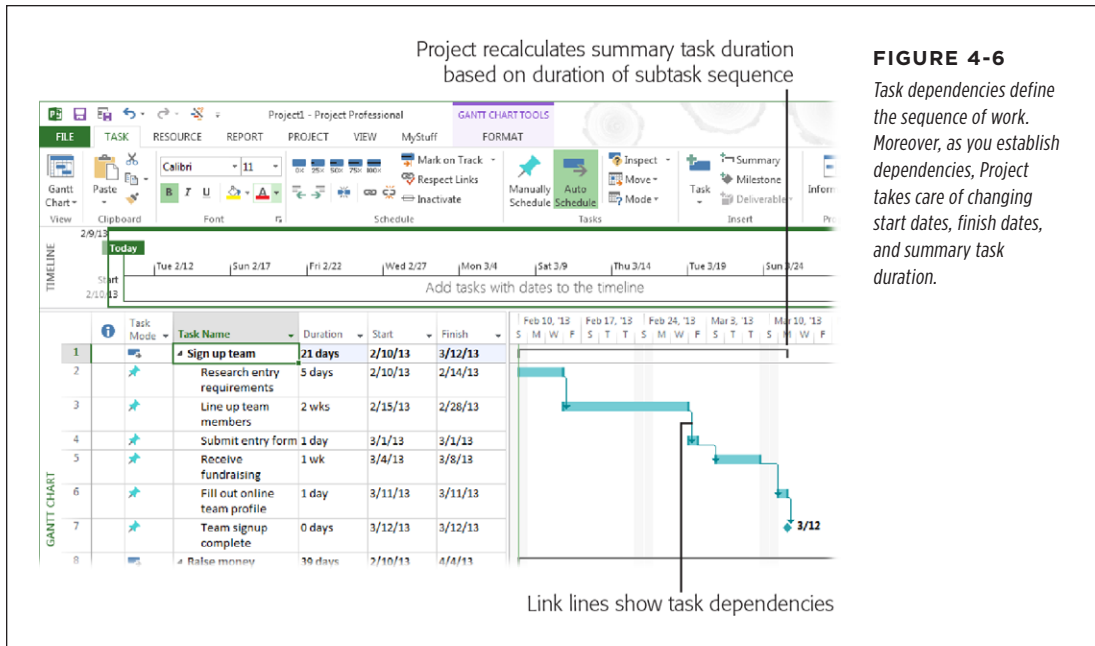

FIGURE 4-6
- 2. To create links between the selected tasks, in the Task tab's Schedule section, click the Link Tasks icon, which looks like links of chain (shown in Figure 4-6).**